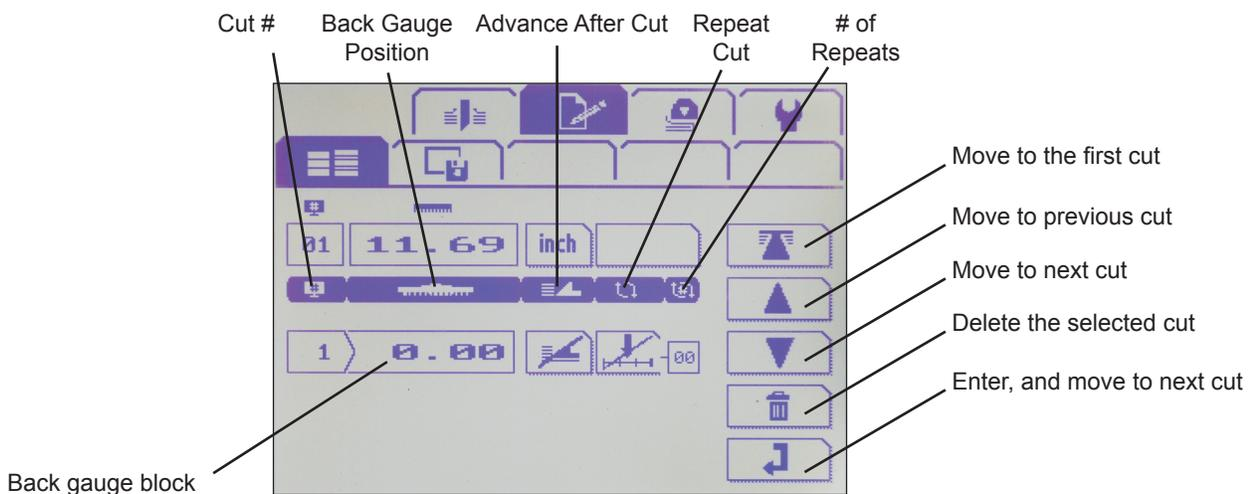

Fig. 4
- Press the enter button  to access the first cut. Press the back gauge block of cut 1 to set the first cut (Fig. 4).
2. Press the enter button  to access the first cut. Press the back gauge block of cut 1 to set the first cut (Fig. 4).